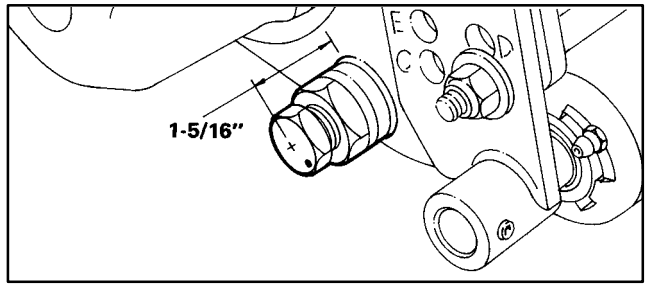

Figure 14
7. Mount left side of bedbar to sideplate with eccentric pivot bolt, jam nut and plastic washer. Position washer between bedbar and sideplate. Thread pivot bolt into bedbar until the distance from top of pivot bolt and sideplate is 1-5/16" with identification dot positioned to rear. Do not tighten jam nut at this time (Fig. 14).